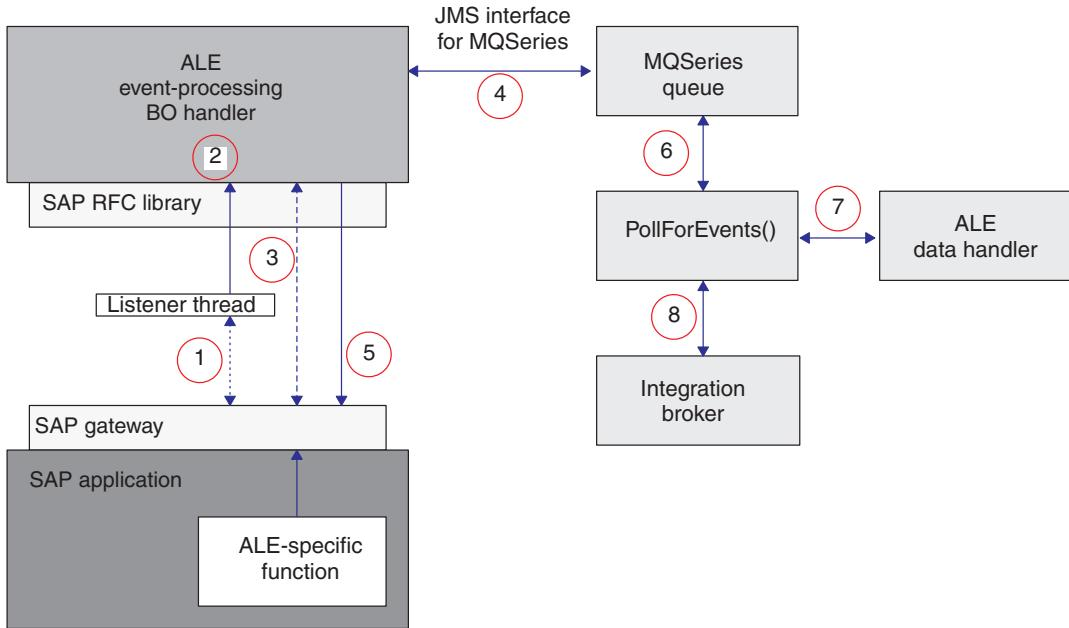

Figure 51. Business object event processing
**Processing events in the WebSphere MQ queue:** Figure 51 on page 110 illustrates how the ALE Module processes the WebSphere MQ queue.